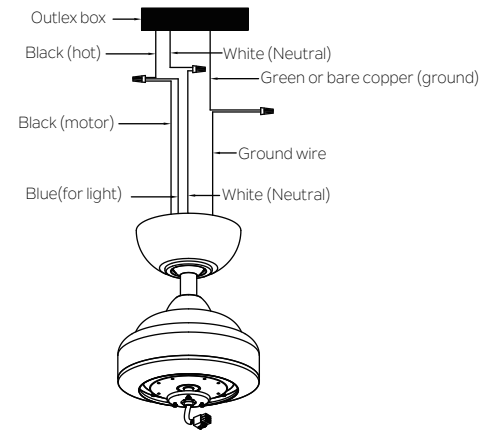

Fig. 12
Step 1. Connect the fan supply BLACK wire and fan light supply BLUE wire to the BLACK household supply wire.(Fig.12.)
Step 2. Connect the fan neutral WHITE wire to the household neutral WHITE wire.(Fig.12)
Step 3. Connect GROUND(GREEN) wires from mounting bracket and downrod ball, to GROUND(GREEN) or BARE(COPPER) wire from house.(Fig.12)